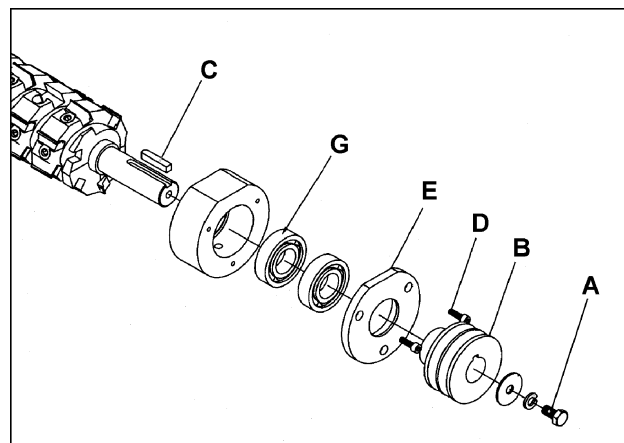

FIGURE 26
7. Loosen lock screw (A-Fig. 26) and remove pulley (B-Fig. 26) and key (C-Fig. 26).
8. Take down screws (D-Fig. 26) on both sides and remove bearing cap plates (E-Fig. 26).
**IMPORTANT:** If the bearings (G-Fig. 26) need replacement, Powermatic strongly recommends this be done by qualified service personnel. The bearings are press fitted and must be removed with an arbor press.